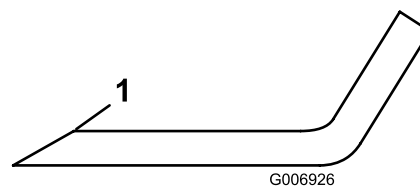

Figure 64
3. Inspect the cutting edges of all blades. Sharpen the cutting edges if they are dull or nicked. Sharpen only the top of the cutting edge and maintain the original cutting angle to make sure of sharpness (Figure 64). The blade will remain balanced if the same amount of metal is removed from both cutting edges.